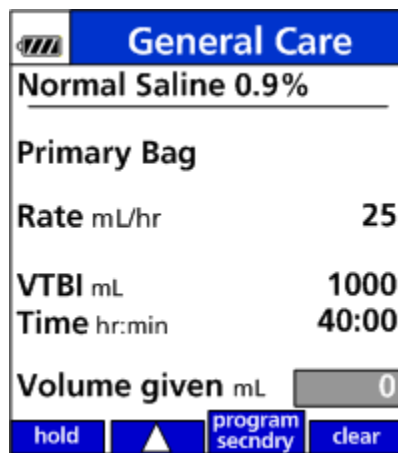

Figure 35. Program Secondary after Primary Setup.
3. When you have finished programming the pump for the primary infusion and before you run the infusion, press **PROGRAM SECNDRY** soft key to begin programming the secondary bag. (See Figure 35.)